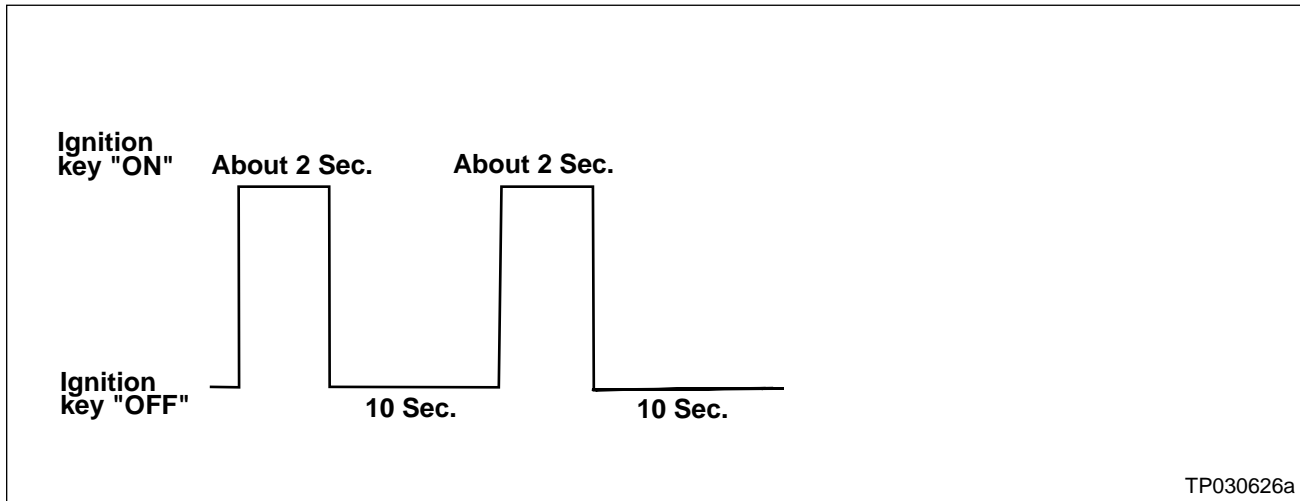

Figure 9
- b. Turn the ignition switch "OFF" again for 10 seconds (see Figure 9).